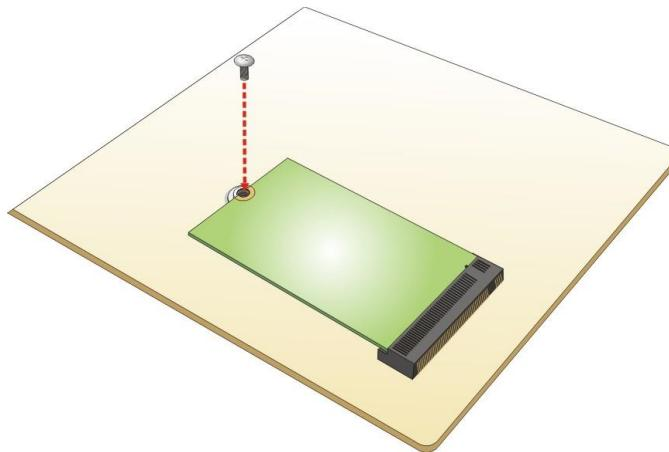

Figure 4-10: Securing the M.2 Module
Step 4: Secure the M.2 module with the previously removed retention screw (Figure 4-10).